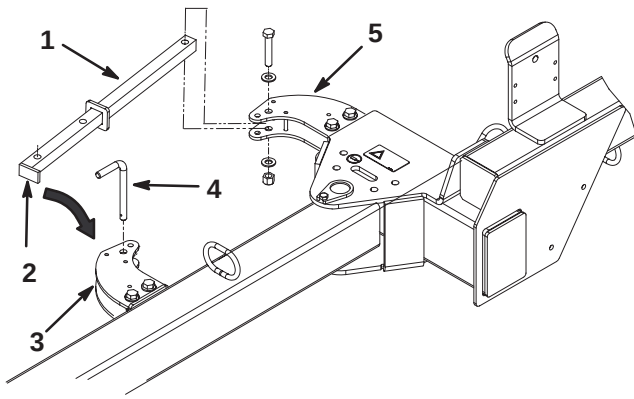

Figure 4
2. Insert the welded tab end of the actuator arm between the welded pins in the front actuator tab (Fig. 4).
- Secure the actuator arm to the front actuator tab with a hitch pin (Fig. 4).
- Insert the rear end of the actuator arm into the rear actuator tab while aligning the mounting holes (Fig. 4).
- Secure the actuator arm to the actuator tab with a 1/2-13 x 2-3/4" lg. capscrew, (2) .531 x .063 flat washers and a 1/2-13 locknut. Position components as shown in figure 4.